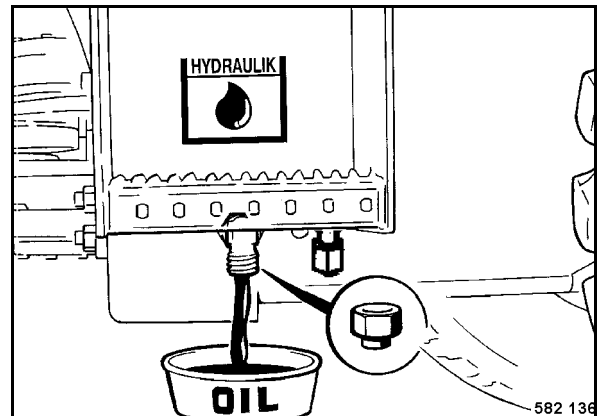

Fig. 97
- Unscrew the plug (Fig. 97) and drain off all hydraulic oil.